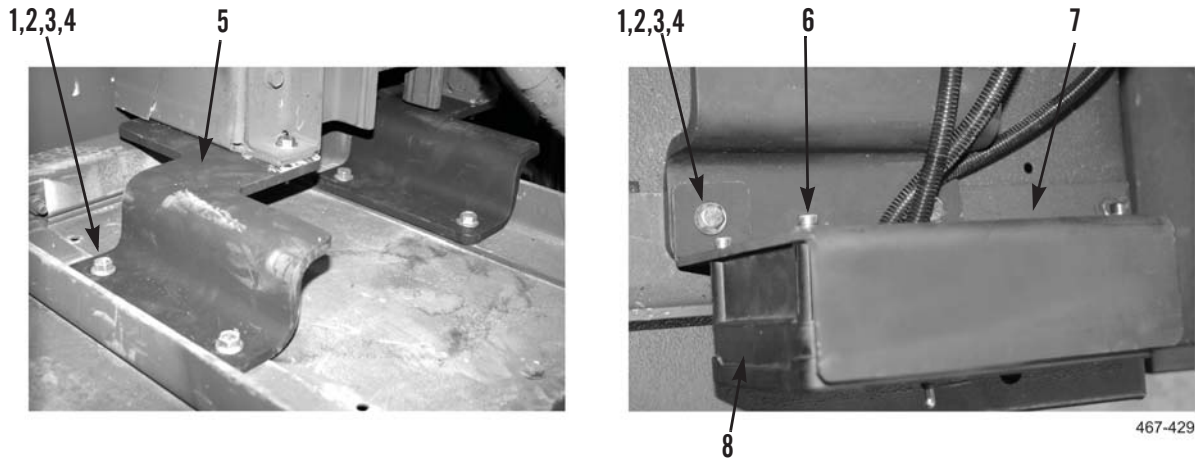

Figure 20. Control Panel Installation.
62. Remove two nuts (Figure 20, Item 1) washers (Figure 20, Item 2), washers (Figure 20, item 3), and bolts (Figure 20, Item 4) from hydraulic control mounting bracket (Figure 20, Item 5).
63. Install control panel (Figure 20, Item 8), and four bolts (Figure 20, Item 6) on stowage control panel bracket (Figure 20, Item 7).
64. Install stowage control panel bracket (Figure 20, Item 7), two washers (Figure 20, Item 3), bolts (Figure 20, item 4), washers (Figure 20, Item 2), and nuts (Figure 20, Item 1) on hydraulic control mounting bracket (Figure 20, item 5).